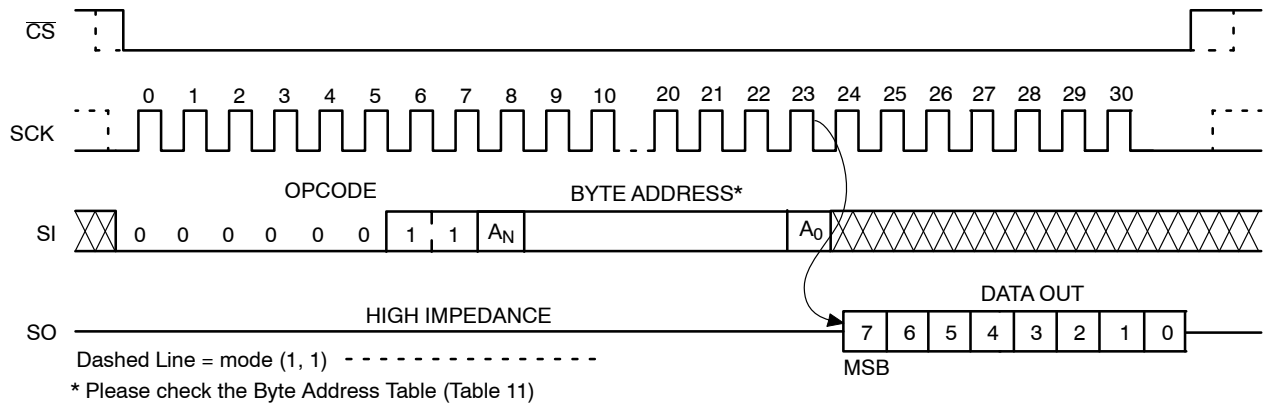

Figure 9. READ Timing
After receiving the last address bit, the CAV25256 will respond by shifting out data on the SO pin (as shown in Figure 9). Sequentially stored data can be read out by simply continuing to run the clock. The internal address pointer is automatically incremented to the next higher address as data is shifted out. After reaching the highest memory address, the address counter “rolls over” to the lowest memory address, and the read cycle can be continued indefinitely. The read operation is terminated by taking $\overline{\text{CS}}$ high.
Reading the additional 64-byte Identification Page (IP) is achieved using the same Read command sequence as used for Read from main memory array (Figure 9). **The IPL bit from the Status Register must be set (IPL = 1) before attempting to read from the IP.** The [A5:A0] are the address significant bits that point to the data byte shifted out on the